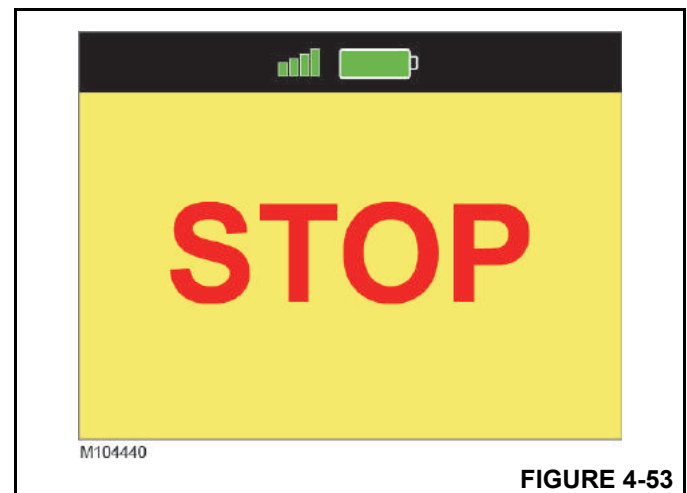

FIGURE 4-53
- STOP screen appears. (Figure 4-53)